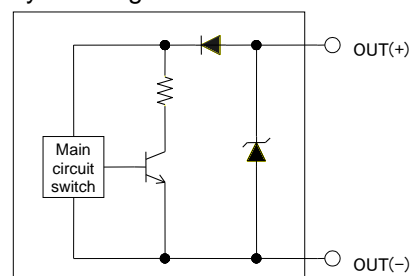

Fig.1
- \*9: When no input current has been applied, an alarm is output. Fig. 1 shows an internal alarm circuit of the IP8001-0\*2 (Non explosion protected construction).